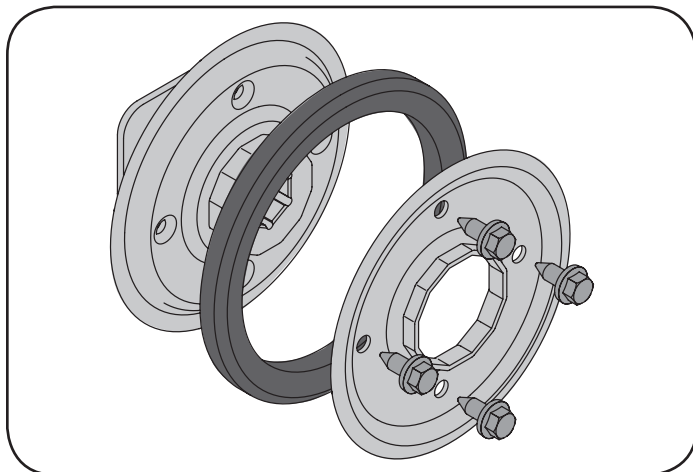

Figure 75
1. Remove the four screws which secure the friction wheel's side plates together. See Figure 75.